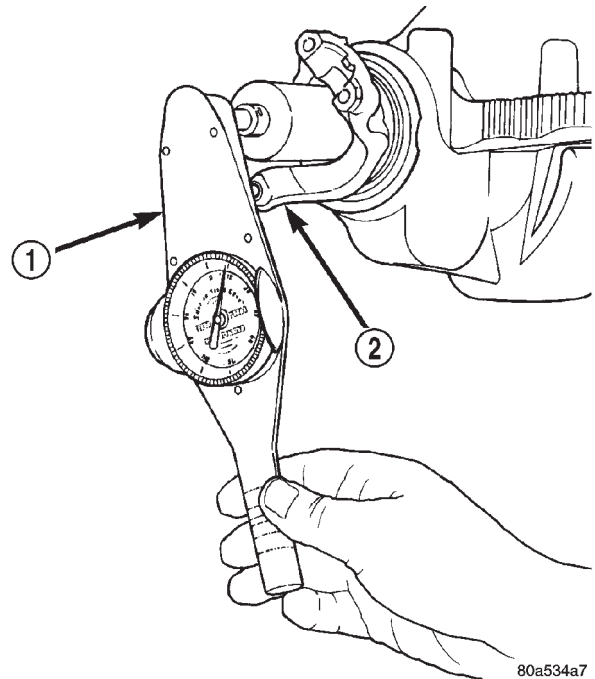

Fig. 64 Check Pinion Rotation Torque
(10) Slowly tighten the nut in 6.8 N·m (5 ft. lb.) increments until the rotating torque is achieved. Measure the rotating torque frequently to avoid over crushing the collapsible spacer (Fig. 64).
(11) Check bearing rotating torque with an inch pound torque wrench (Fig. 64). The torque necessary to rotate the pinion should be:
- (12) Install differential assembly.